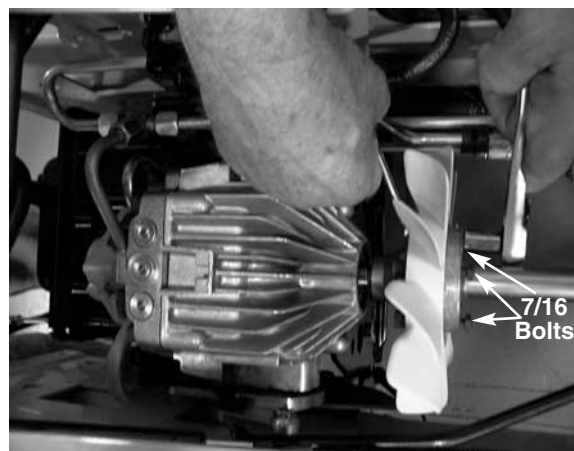

FIGURE 10.
- Tighten the hex bolts and shoulder nuts securing the pump adapter assembly, using a 7/16 wrench and a 7/16 socket. See figure 10.